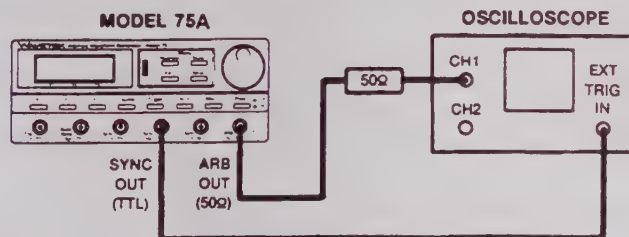

Figure 5-2. Amplitude Verification Equipment Connection
1. Interconnect the Model 75A and test equipment as shown in figure 5-2.